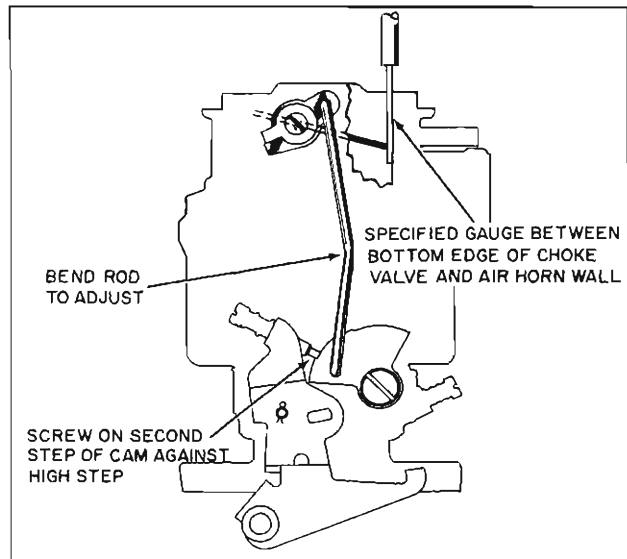

Fig. 4-119 Choke Rod Adjustment
4. Assemble choke shaft into air horn from the throttle lever side. Tang on the trip lever should be above the tang on the upper choke lever. See Fig. 4-119.
CHOKE ROD ADJUSTMENT (Fig. 4-119)